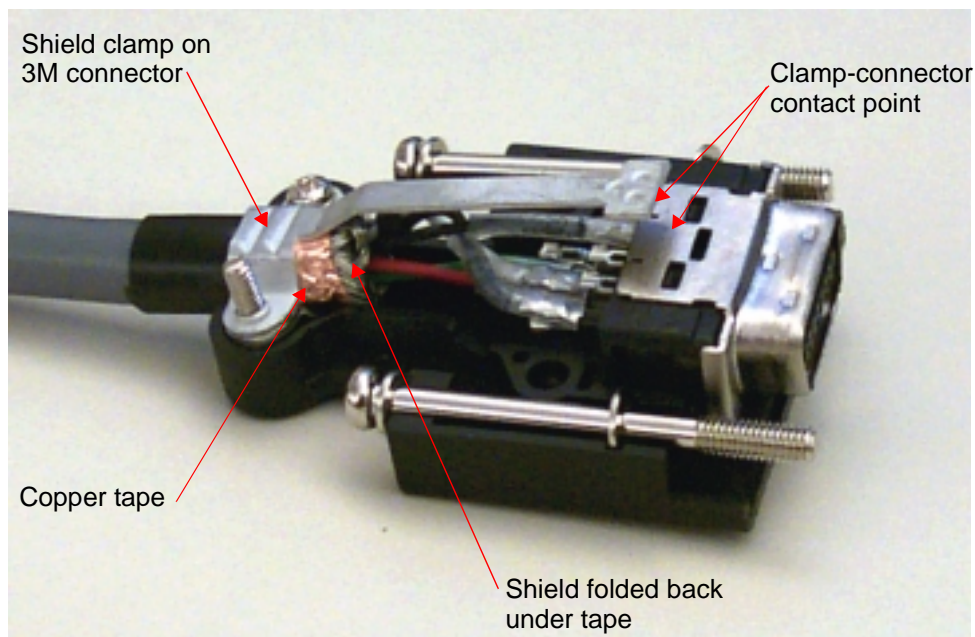

Figure 3
*Note: See Figure 3 for shield to connector shell termination details.
1. At cable ends, fold back shield and wrap with a thick copper tape. This will maximize the contact area (see Figure 3).